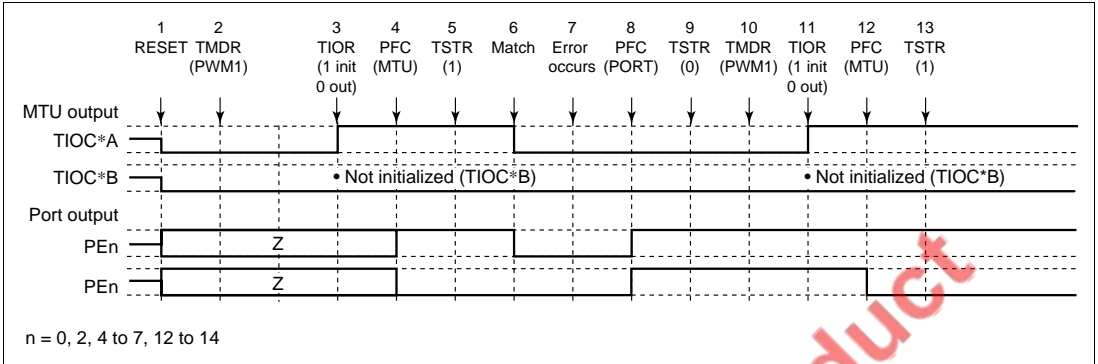

Figure 8.53 Error Occurrence in PWM Mode 1, Recovery in PWM Mode 1
(5) Operation when Error Occurs during PWM Mode 1 Operation, and Operation is Restarted in PWM Mode 1: Figure 8.53 shows an explanatory diagram of the case where an error occurs in PWM mode 1 and operation is restarted in PWM mode 1 after re-setting.